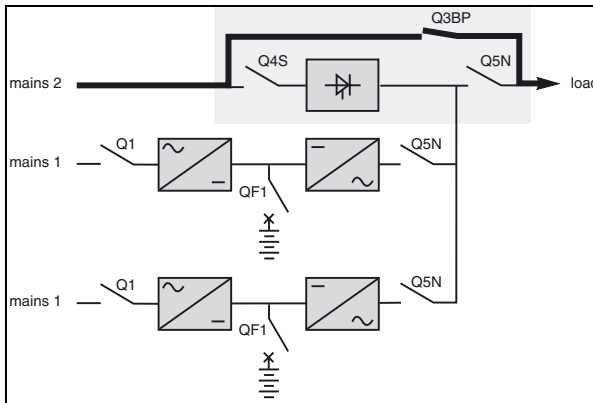

Fig. 29
## Static Switch Cubicle (figure 29)
- open switches Q5N, then switch Q4S on all the UPSs (figure 29).